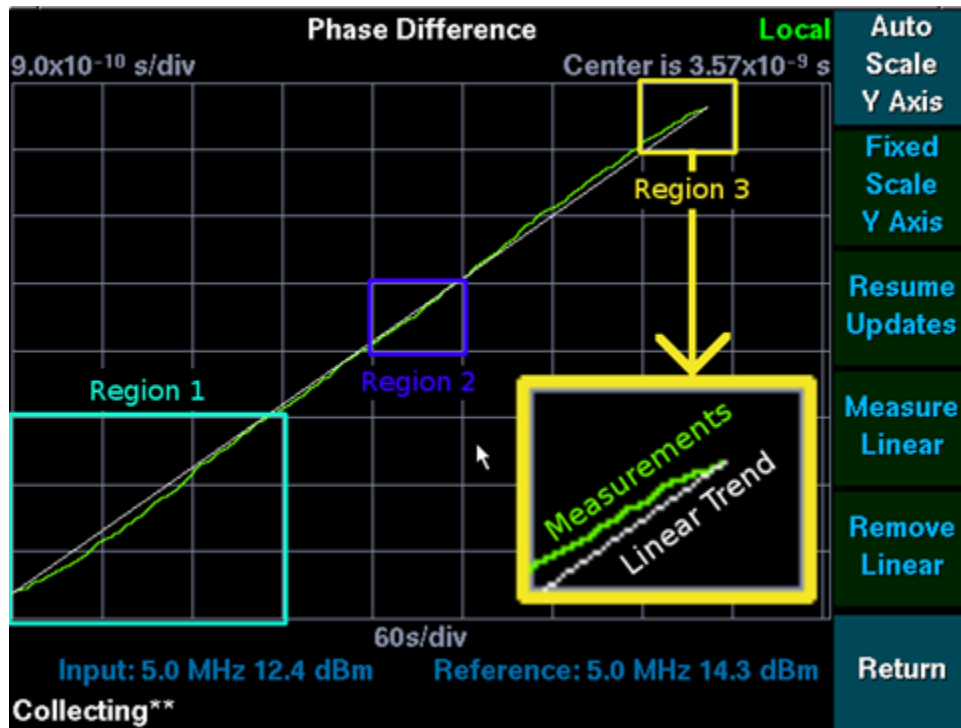
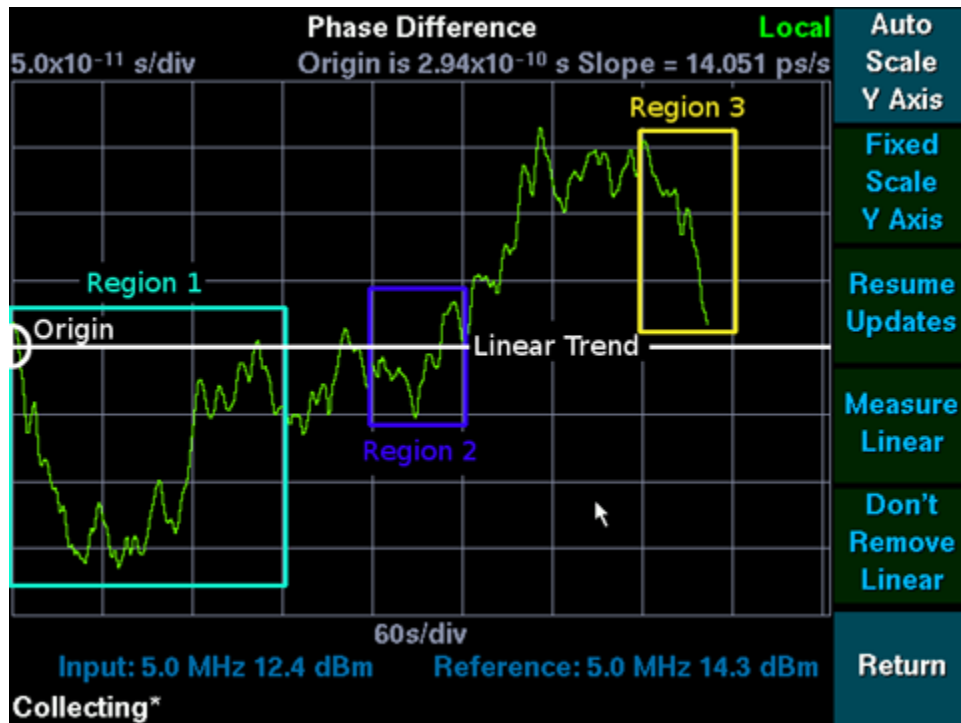
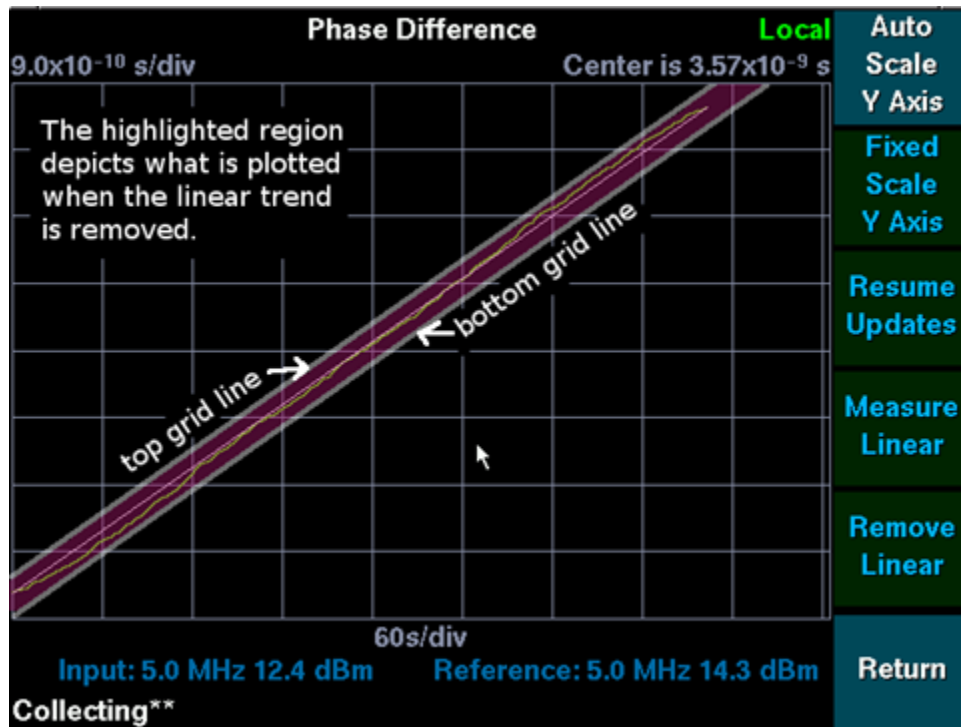

Figure 13: Linear Trend in Phase Difference Measurements
Figure 14: Linear Trend Removed
Figure 15: Conceptual Representation of Figure 14 Linear Trend Removed in terms of Figure 13 Linear Trend in Phase Difference Measurements.
Consider the phase difference measurements plotted in Figure 13 Linear Trend in Phase Difference Measurements. Over time they exhibit the trend discussed thus far. The white line segment shows this trend, as it is measured by the **Measure Linear** softkey. The slope of this line segment (from the first to the last available measurement) is taken into consideration when the trend is measured.
Make the following observations about Figure 13 Linear Trend in Phase Difference Measurements:
Once the trend has been measured, it can be removed from the plotted measurements, by pressing the **Remove Linear** softkey shown in Figure 13 Linear Trend in Phase Difference Measurements. Removing the linear trend from this data set results in the display shown in Figure 14 Linear Trend Removed:
Make the following observations about Figure 14 Linear Trend Removed:
- *Slope* shows by how much the white line labeled Linear in Figure 14 Linear Trend Removed was adjusted. It is the slope of the line through the oldest and most recent measurement at the time the linear trend was measured using the **Measure Linear** softkey.
Compare each of the rectangular regions with its counter part in Figure 13 Linear Trend in Phase Difference Measurements.
- Trend line intersections which were barely noticeable in Figure 13 Linear Trend in Phase Difference Measurements can readily be seen.
The **Remove Linear** softkey has changed to **Don't Remove Linear**. Pressing it at this time will stop removing the trend from the data and display data set as seen in Figure 13 Linear Trend in Phase Difference Measurements.
Pressing the **Remove Linear** softkey essentially plots the phase difference measurements' distance from the trend last measured by the **Measure Linear** softkey. The top and bottom most grid lines in Figure 14 Linear Trend Removed are parallel to the linear trend line segment in Figure 13
Linear Trend in Phase Difference Measurements, as depicted in Figure 15 Conceptual Representation of Figure 14 Linear Trend Removed in terms of Figure 13 Linear Trend in Phase Difference Measurements.: